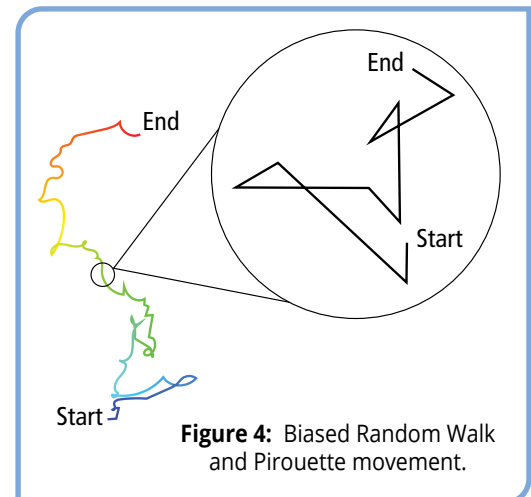

Figure 4: Biased Random Walk and Pirouette movement.
C. elegans have sophisticated sensory capabilities that allow them to navigate chemically diverse environments. They also use chemical cues to temporarily survive harsh conditions by going into an alternate low energy larval state. When finding food and avoiding danger, *C. elegans* maneuver using a biased random walk or pirouette model (Figure 4). Rather than moving directly toward or away from a chemical an individual will alternate between long forward movements and random changes in directions. In the presence of attractants, much more time is spent moving forward. In the presence of a repellent, more time is spent changing direction. While this movement may appear slow, it is actually well suited to the nematode's noisy and turbulent soil environments.